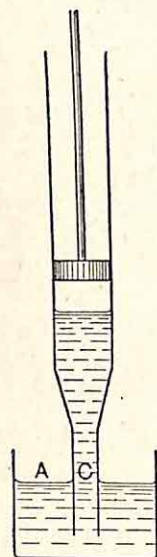

FIG. 118.
**The syringe.**—The syringe is the simplest of all pumps—a cylinder terminating in a nozzle and operated by a well fitting piston. When the nozzle is placed in water (Fig. 118) the pressure of the air on the water, at C, in the syringe is the same as that, at A, outside it. As the raising of the piston decreases the pressure of the air in